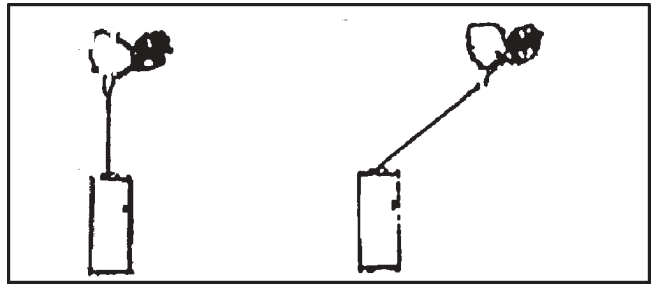

Figure 11-17. Correct and incorrect positioning for continuous pulls.
11. Avoid continuous pulls from extreme angles as this will cause the wire rope to pile up at one end of the drum (Figure 11-17). This can jam the wire rope in the winch causing damage to the wire rope or the winch itself.